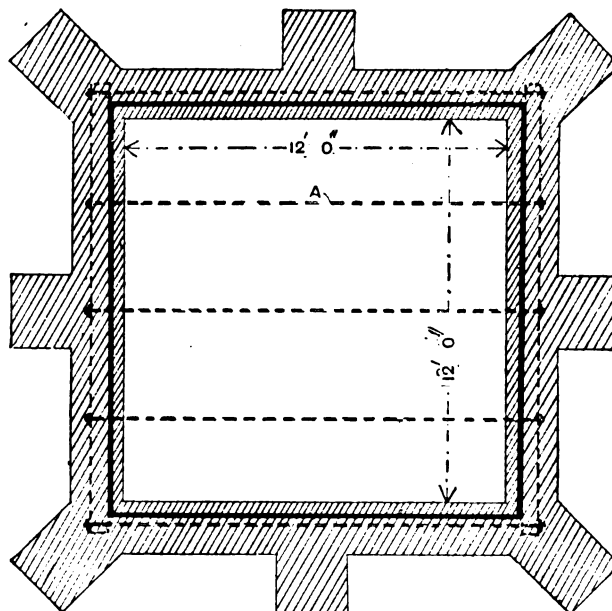

FIG. 1
**Rainwater Tank above Ground.**—Fig. 1 is a plan and Fig. 2 a section of a brick rainwater tank entirely above ground and arched over so as to be absolutely safe from pollution by anything deleterious draining into the tank. The tank is 12 ft. by 12 ft. by 6 ft. high. The main walls are 14 in. thick, with a 2-in. cavity filled with asphalt, and an inner brick wall 4 in. thick, making a wall 20 in. thick altogether. Strong buttresses should be placed in the middle of each side